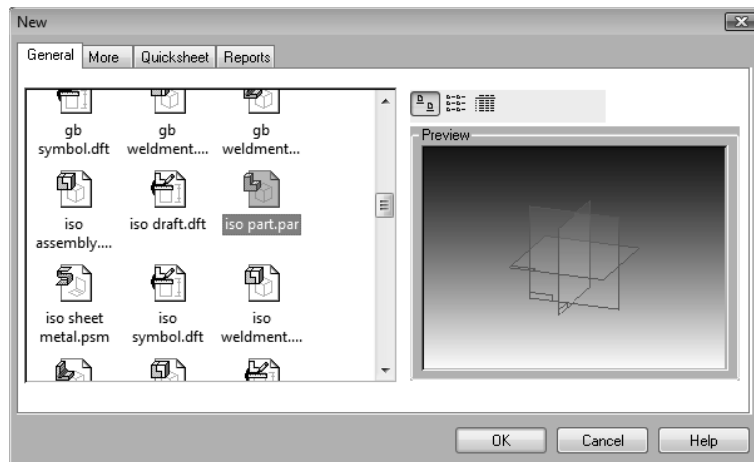

Figure 2-36 The New dialog box to start a new file in Solid Edge
1. Choose the **New** button from the **Quick Access toolbar**; the **New** dialog box is displayed, as shown in Figure 2-36.
2. Select **iso part.par** from the **General** tab of the dialog box, as shown in Figure 2-36, and then choose **OK** to start a new part file.